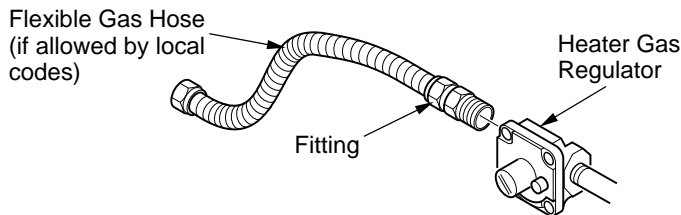

Figure 12 - Attaching Flexible Gas Hose to Heater Gas Regulator
1. Apply pipe joint sealant lightly to male threads of the fitting to be threaded into gas regulator. Connect approved flexible gas hose to gas regulator of heater (see Figure 12).